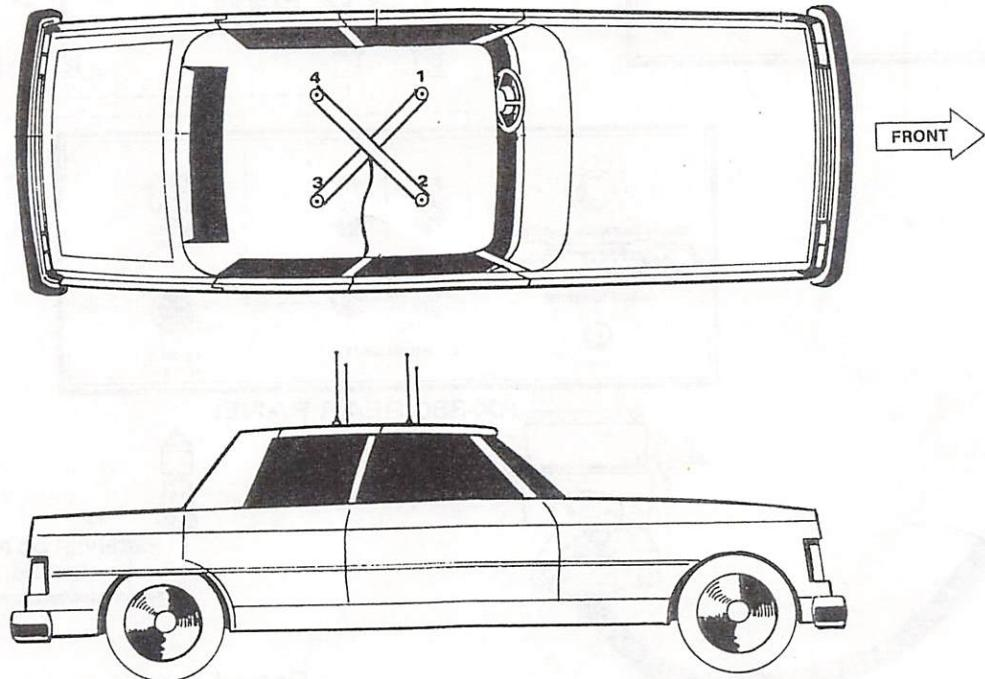

Figure 8. Antenna Placement.
1. Place the supplied Antenna System on the roof of the vehicle (illustrated below in Figure 8). Make sure that the arrow symbol on the antenna system points toward the front of the vehicle. Antenna placement is critical to assure that the Bird Dog® performs accurately.